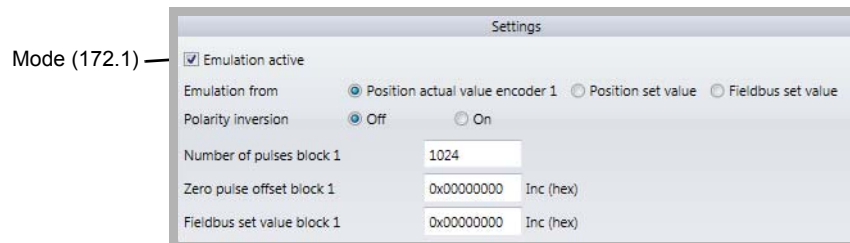

Figure 27: Encoder emulation 1 - settings
- 7 All values and selections must be made according following ►Figure 27◄ in this window. The settings correspond with the signal of a square wave incremental encoder with 1024 increments.